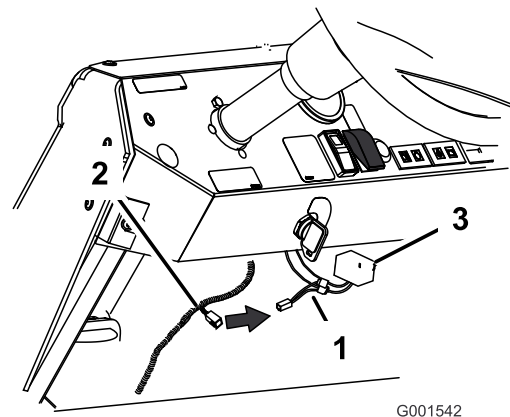

Figure 17
- B. Match up the colored wires and splice the two ends onto the wires going into the light switch connector (Figure 17).
- C. Connect the adaptor wire harness to the new harness (Figure 17).